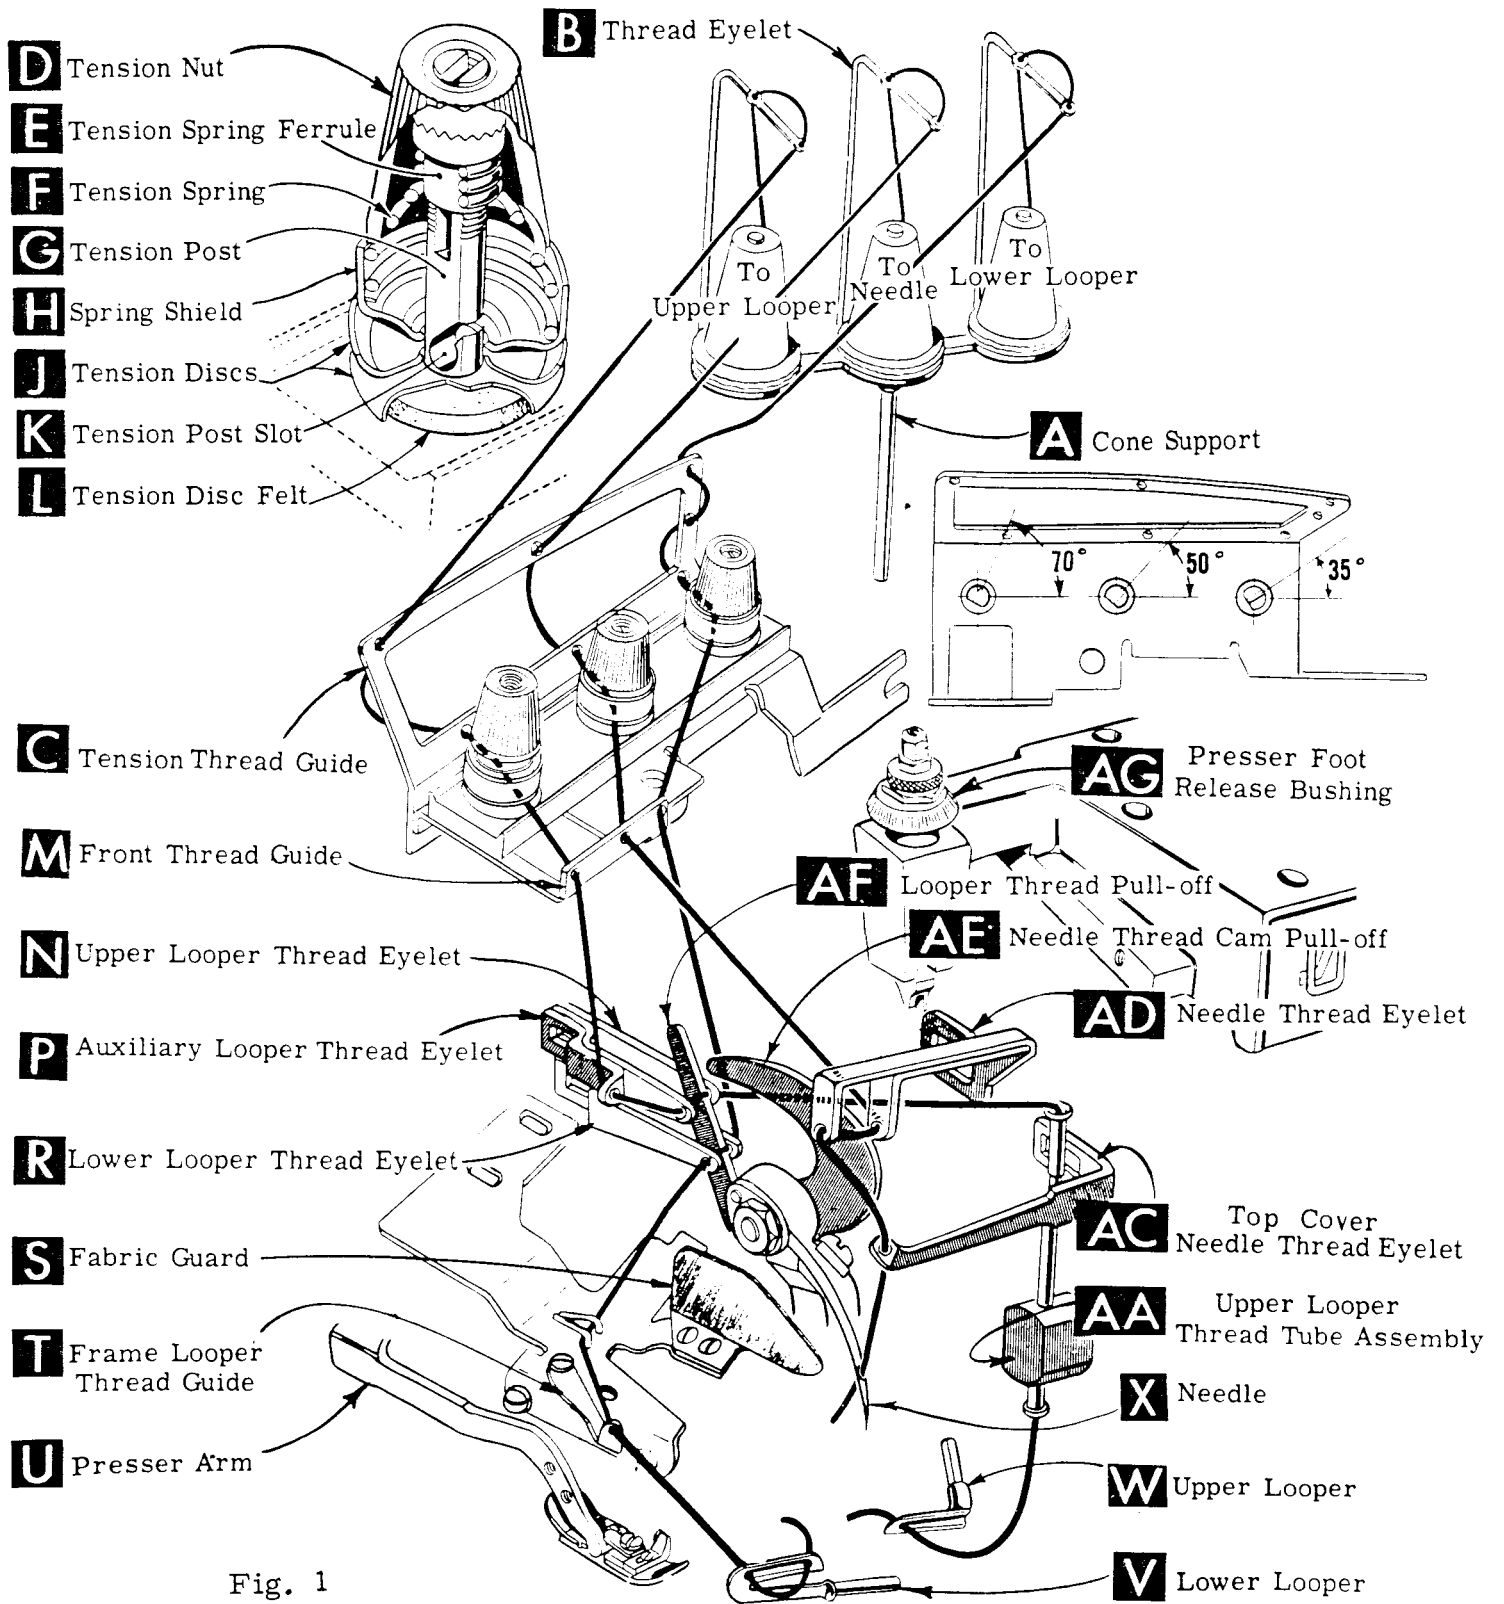

Fig. 1
Release pressure on presser foot by turning presser foot release bushing (AG, Fig. 1) and swing presser arm (U) out of position. Turn handwheel in operating direction until needle is at its lowest point of travel. Using hexagonal socket wrench No. 21388 AU, furnished with machine, loosen needle clamp nut about 1/4 turn. Again turn handwheel until needle is at high position; withdraw needle.
After thread comes from cones on cone support (A, Fig. 1), it is brought up through back hole of thread eyelet (B), then down through the front hole of thread eyelet. Next it is threaded through the upper holes of tension thread guide (C) from front to back and then through the lower holes from back to front. It should be noted that the lower looper thread is threaded through the tension thread guide (C), first through the upper hole back to front, second through the middle hole front to back and third through the lower hole back to front. All threads then continue between the tension discs (J), through tension post slot (K) in tension post (G) and on through front thread guide (M).
Only parts involved in threading are shown in threading diagram (Fig. 1). Parts are placed in their relative positions for clarity.
Thread lower looper thread through right eyelet of front thread guide (M). Then double end of thread and lead it through both eyes of lower looper thread eyelet (R, Fig. 1) from right to left. Note: thread must pass in front of looper thread pull-off (AF). Lead thread behind fabric guard (S) and through eyelet hole of frame looper thread guide (T). Turn handwheel in operating direction until heel of lower looper (V) is all the way to the left; then thread through both eyes from left to right. Left eye of lower looper can be threaded easily if tweezers are in left hand.
Thread needle thread through middle eyelet of front thread guide (M). Then turn handwheel in operating direction until needle (X, Fig. 1) is at its highest position. Insert needle thread from right to left, through both eyes of needle thread eyelet (AD), under neck of top cover casting; then down through hole in top cover needle thread eyelet (AC). Thread needle from front.
The amount of tension on needle and looper threads is regulated by the tension nuts (D, Fig. 1). Tension on threads should be only enough to secure proper stitch formation.
Be sure machine is threaded according to threading diagram (Fig. 1). With thread tensions light, set looper thread eyelets (N and R) about horizontal and in the middle of their front to back locations. Operate machine slowly, without presser foot in place, to make sure that chain forms and moves off the tongue freely. Swing presser foot into position, insert material and sew slowly.
While sewing on material, check needle thread control as follows: Usually all needle thread is drawn on needle downstroke. At top of needle stroke, thread should be just tight enough to feed chain off stitch tongue. Stitch tends to pull down slightly if excessive thread is pulled on the upstroke. With needle at bottom of stroke, position needle thread eyelet (AD, Fig. 1) so that needle thread cam pull-off (AE) just contacts needle thread.
With material under presser foot, set lower looper thread eyelet (R, Fig. 1) back far enough so thread is a little slack when looper thread pull-off (AF) reaches its most rearward position. Looper thread pull-off (AF) is set about 1/8 inch distance behind needle thread cam pull-off (AE). Frame looper thread guide (T) should be set with its eyelet approximately 1/8 inch to the right of lower looper (V) heel eyelet at the time lower looper is at extreme left end of its travel.
Before proceeding to adjust upper looper thread eyelet (N, Fig. 1) balance all three tensions to give a normal appearing stitch. Moderate change in these tensions will not markedly affect the purl.